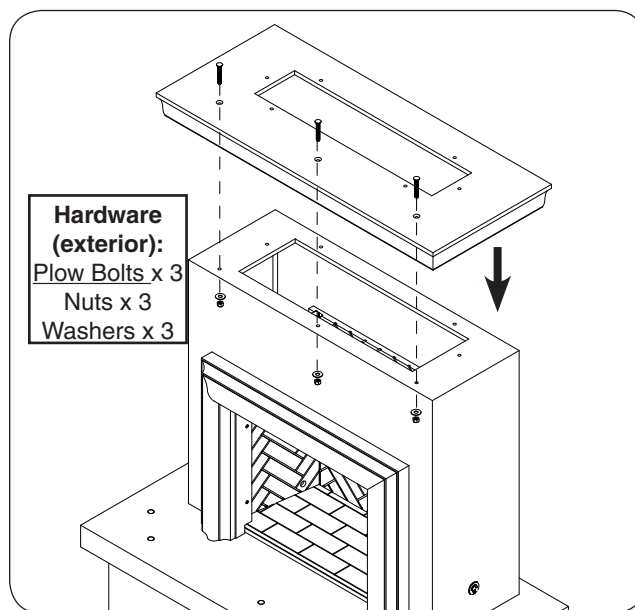

Fig. 17-2 Assemble mantel
1. Place the mantel on top of the body piece (see Fig. 17-2).
2. Carefully align the pilot holes, and insert the hardware (exterior hardware kits) in the order shown in Fig. 17-2. Hand tighten, then use a 3/4" open end wrench (or equivalent) to fasten.